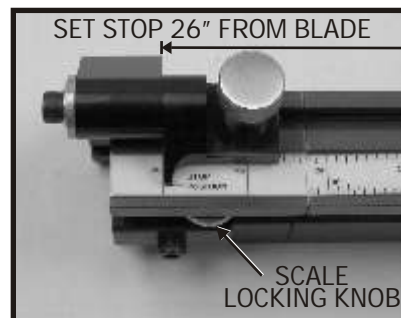

FIG. 10
10. Slide the fence extension block all the way in toward the main fence so it is tight against the main fence (Fig. 10). Re-tighten the 1/4" socket head screw as shown in fig. 8. Slide the fence stop onto the fence extension (Fig. 10) and with a tape measure or steel rule set the fence stop 26 inches from the cutting edge of the blade and lock it in this position. Then loosen the scale locking knob on the fence extension and adjust the short scale so the left side of the scale indicator lines up with the 26 inch line marked "STOP POSITION" (Fig. 10). The scale for the fence extension is now set.